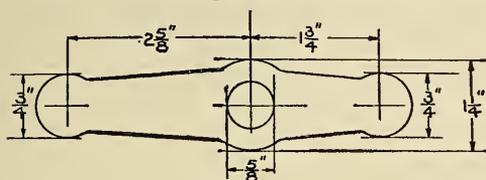

FIG. 77
Thread one end of this rod to a distance of about one inch and drill a $3\text{-}32$ -inch hole through it $\frac{1}{4}$ inch from the opposite end. This rod is to be used in operating the contact arm (B) of the switch (S_2). Cut from some 1-16-inch spring brass two pieces as shown in Figs. 77 and 78 that are to form the arms (A) and (B) of the switches. A brass washer (R), Fig. 76, should be cut from some $\frac{1}{8}$ -inch brass and soldered to the arm (B) and both of them then soldered to the brass rod so that the lower side of the washer is $5\frac{1}{2}$ inches from the threaded end of the rod. Now fasten this part of the switch in position as shown in Fig. 76. A brass washer (W) should be placed on the end of the rod before the nut is screwed on. It would be best to put a lock nut on the end of the rod in addition to the one shown. These nuts should be run onto the rod until there is quite a little tension in the arm (B), thus assuring a good contact between it and the heads of the screws. Procure an insulating tube, $4\frac{3}{8}$ inches long, with an inside diameter a trifle larger than the outside diameter of the brass rod (R_1) and an outside diameter of approximately $\frac{1}{2}$ inch. Next obtain a piece of brass tubing (T) $4\frac{1}{2}$ inches long with about 1-16-inch wall and of such an inside diameter that it will fit snugly around the insulating tube. Now fasten the arm (A) to the brass tube with a brass washer (R_1) as you did the arm (B) to the brass rod. The lower side of the arm (A) should be $1\frac{1}{4}$ inches from the lower end of the brass tube when they are fastened together. A special washer (R_2) should now be made. Two holes should be drilled in the lower end of the brass tube and threaded so that they will take the screws (S_3) and (S_4). There should be quite a bit of pressure exerted by the arm (A) upon the heads of the screws when it is fastened in place.